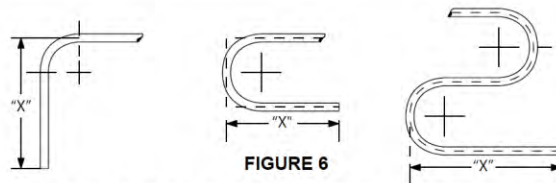

FIGURE 6
4. If more than one bend is required (Fig. 6), measure from the center line of the first bend leg and mark per drawing dimension. Proceed with bend as described in Step 2.
A single 45° bend may be made by measuring from end of tube to where bend is to be located and placing a mark at this point. Place tube in bender so that the mark on tube is located directly in line with the "45" graduation on swivel handle shown in Fig. 6.